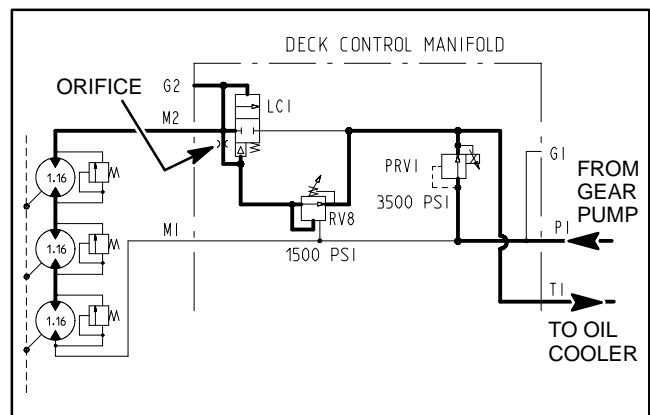

Figure 21
The inertia of the rotating cutting blades, however, effectively turns the deck motors into pumps causing an increase in pressure as the flow from the motors comes up against the closed logic cartridge (LC). When this pressure builds to approximately 1500 PSI (104 bar), the relief valve opens which allows a small amount of hydraulic flow past the relief valve (Fig. 21). This flow causes a pressure increase that shifts the logic cartridge to once again allow oil flow from the deck motors (Fig. 22). When return pressure drops below 1500 PSI (104 bar), the relief valve reseats and causes the logic cartridge to close again, blocking return flow from the deck motors to further slow the cutting blades. This action of the relief valve opening and the logic cartridge shifting occurs several times in a very short time frame as the blades finally come to a stop. Once the blades have stopped, the logic cartridge remains in the neutral position to keep the deck motors from rotating.